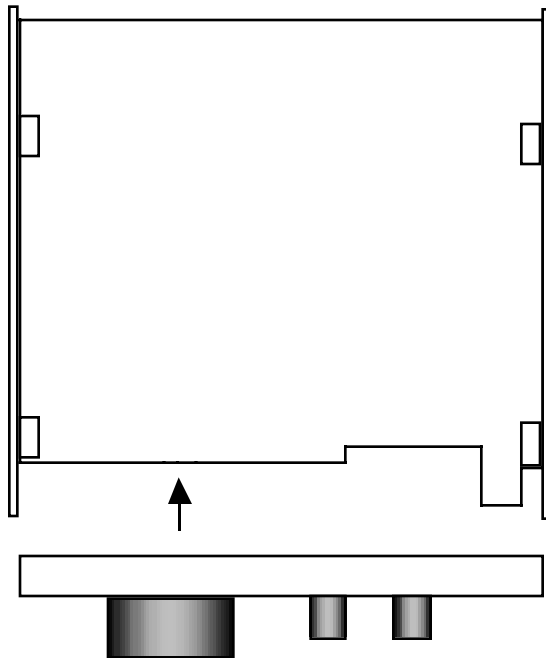

Figure 6-13
- ☐ With the assembly upside-down or resting on one side, plug the front panel assembly into the RF board (Figure 6-13). Connector J1 on the bottom of the front panel PC board mates with P1 on the bottom of the RF board (indicated by an arrow below).